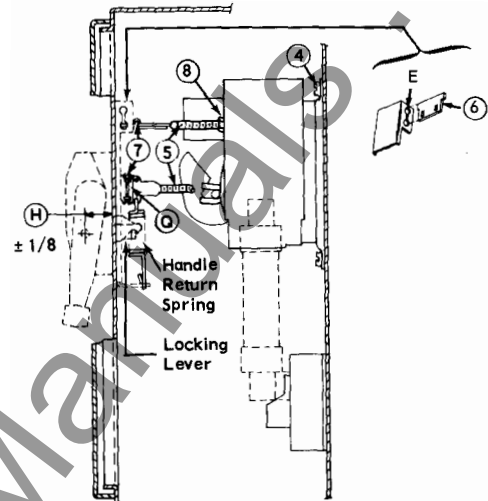
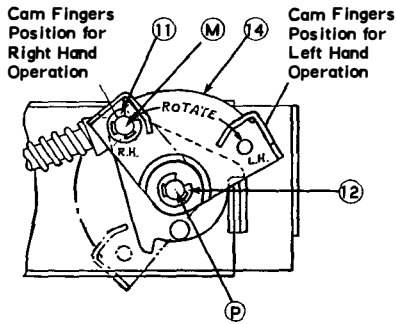

Figure 2
Figure 4
- Locate vertical center line of operating handle from Instruction Sheet 30072-303-10, Fig. 2.
- Install fuse base assemblies, item 3, (if supplied) with (2) ea. 1/4-20 x 1/2 screw, item 9.
- Place nut, item 8, on stiffener rod and screw rod into stiffener bracket.
- Insert stiffener coupling, item 6, thru side of handle stiffener bracket at point E, (See Fig. 2) and connect stiffener rod, item 5, to stiffener coupling with cotter pin, item 7.
- Tighten nut, item 8, and bend cotter pin on stiffener rod.
- Place operating handle in ON position (OFF position for left hand) and connect rod to handle linkage with cotter pin, item 7, at point Q (See Fig. 2). Do not bend cotter pin.
- When adjustment is attained, bend cotter pin and attach handle return spring from Operating Handle Kit (See Fig. 2 and Instruction Sheet 30072-303-10, Fig. 4).